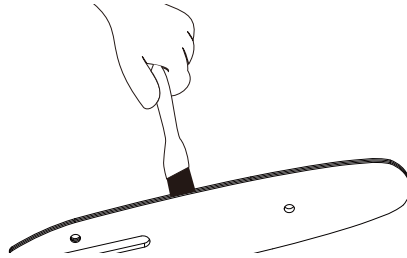

Fig. 27
2. Using a wire brush, screwdriver or similar tool, clear the residue from the inner groove of the bar (Fig. 27).